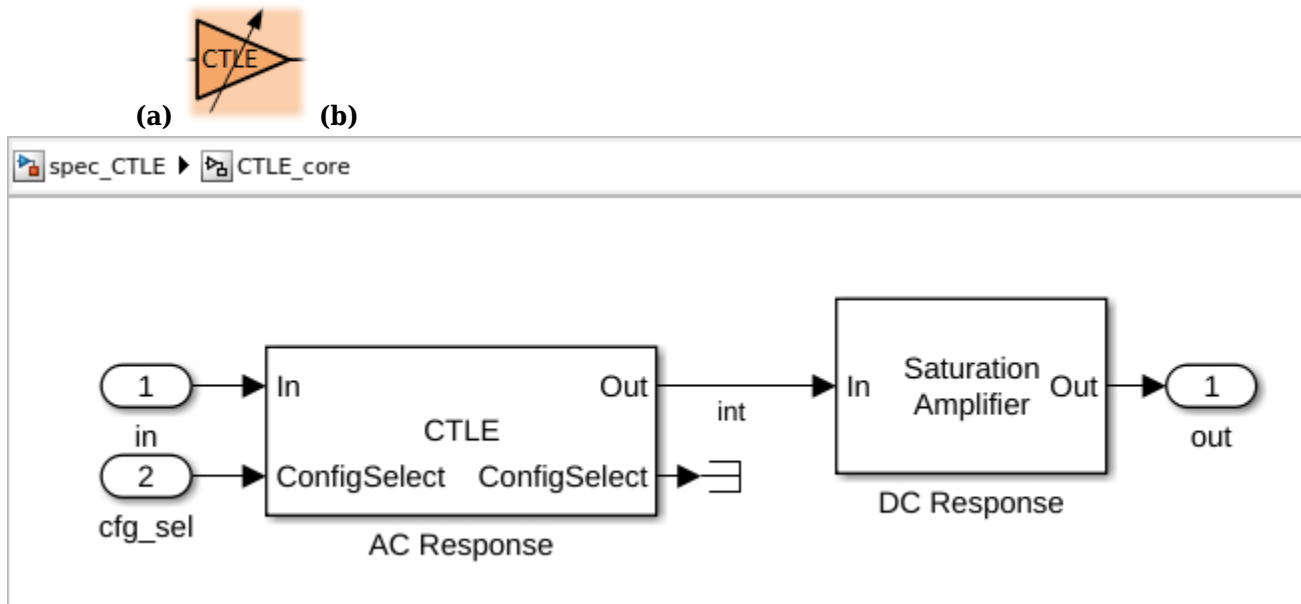

Fig. 3 - The (a) tunable CTLE is modeled using (b) an AC (small-signal) frequency-based response and a DC (large-signal) voltage-based response.
The specification-based high-frequency boost-only CTLE (Fig. 3(a)) is modeled using a series combination of a small-signal (AC) and large-signal (DC) response, as shown in Fig. 3(b). The frequency-domain behavior of the CTLE is captured by its AC response, which is encapsulated in the CTLE System Object. A saturation amplifier System object captures the DC response: large swing saturation (limiting).